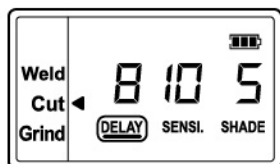

fig.17a
**Cutting Mode (Shade 5 ~ 8) / Weld Mode (Shade 9 ~ 13) – Delay 0 ~ 10 (See fig.17a / 17b)**